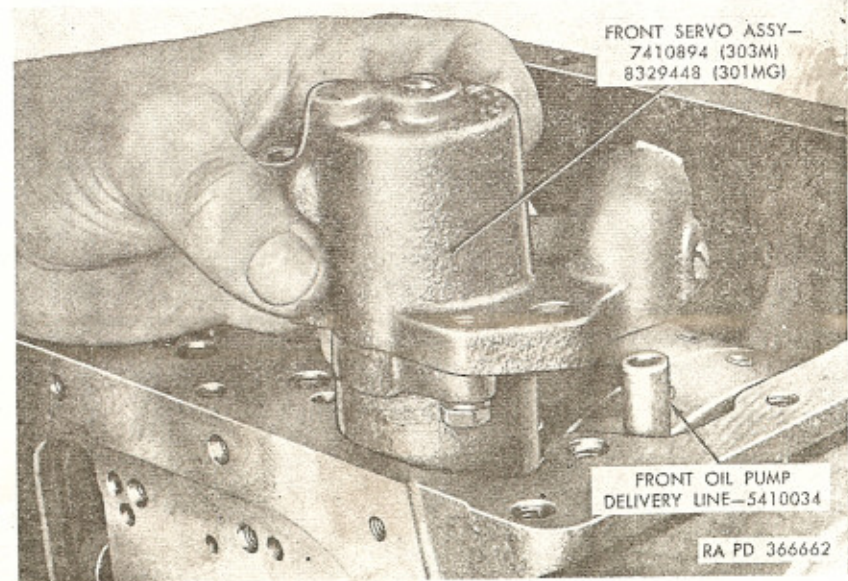

Figure 38. Removing front servo assembly.
f. Remove front servo assembly (fig. 38) by lifting straight up. Front oil pump delivery line (fig. 38) may stick to either the front servo or front oil pump. Remove delivery line.
f. Remove rear oil pump discharge pipe assembly (L) from front servo and rear oil pump. Remove front servo assembly (B) by lifting unit straight up (fig. 38). Front oil pump delivery line (fig. 38) may stick to either the front servo or front oil pump. Remove delivery line.